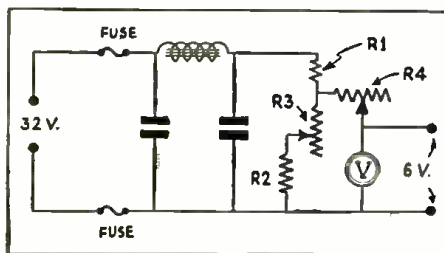

Fig. 2
**I** OFFER a 32 V. filament supply circuit, for a battery set, which may be a help to radio men in rural communities, where the 110 V. line is not present. (See Fig. 2). Values for 01A tubes follow.